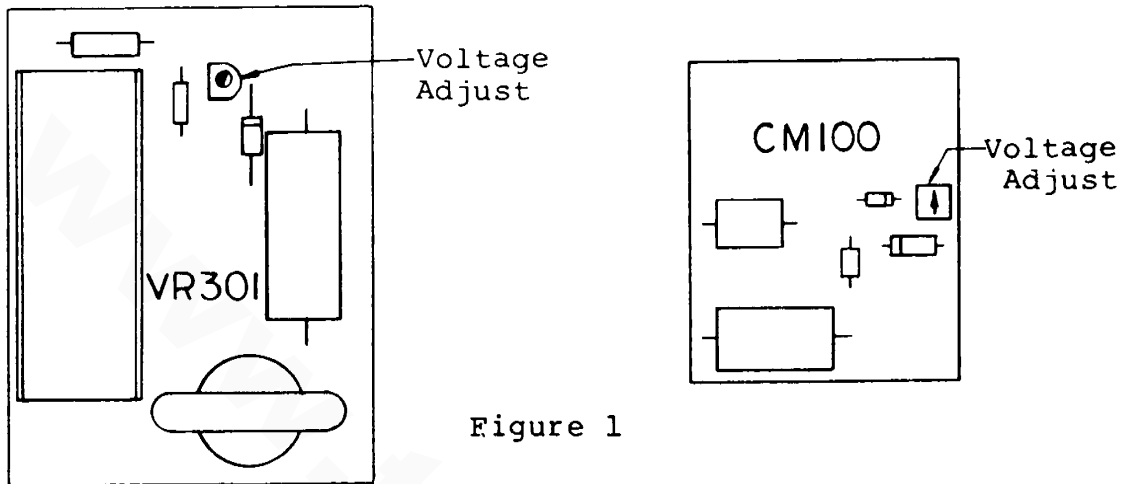

Figure 1
To adjust the output voltage, remove the cover from the control box and locate the voltage setting control per figure 1. Using an insulated tool, operate this control to obtain the desired output voltage. Right hand rotation of this control increases the output voltage.
- a) Misadjusted output voltage control (see figure 1). Set output voltage to desired value. CAUTION: SOME COMPONENTS CARRY LIVE VOLTAGE AND THE USE OF INSULATED TOOLS IS RECOMMENDED.